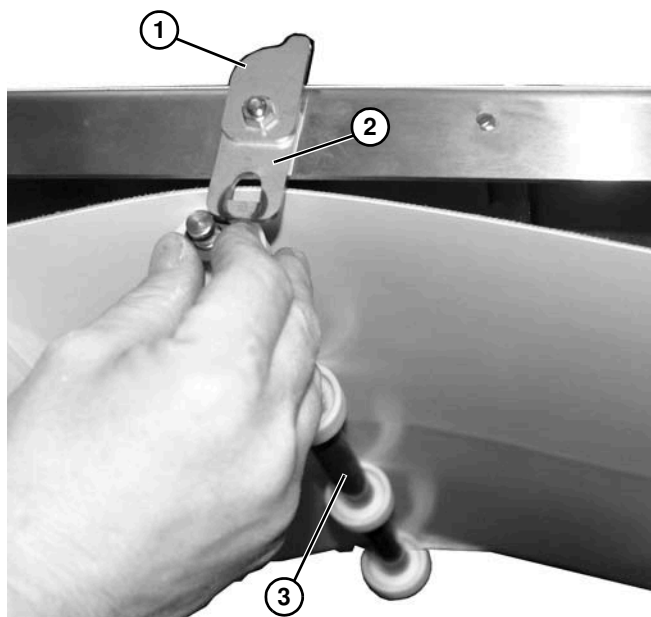

Figure 35
5. Raise clip bracket (**Figure 35, item 1**) from shaft bracket (**Figure 35, item 2**) on conveyor.
6. Install roller assembly (**Figure 35, item 3**) onto shaft brackets (**Figure 35, item 2**) on both sides of conveyor.